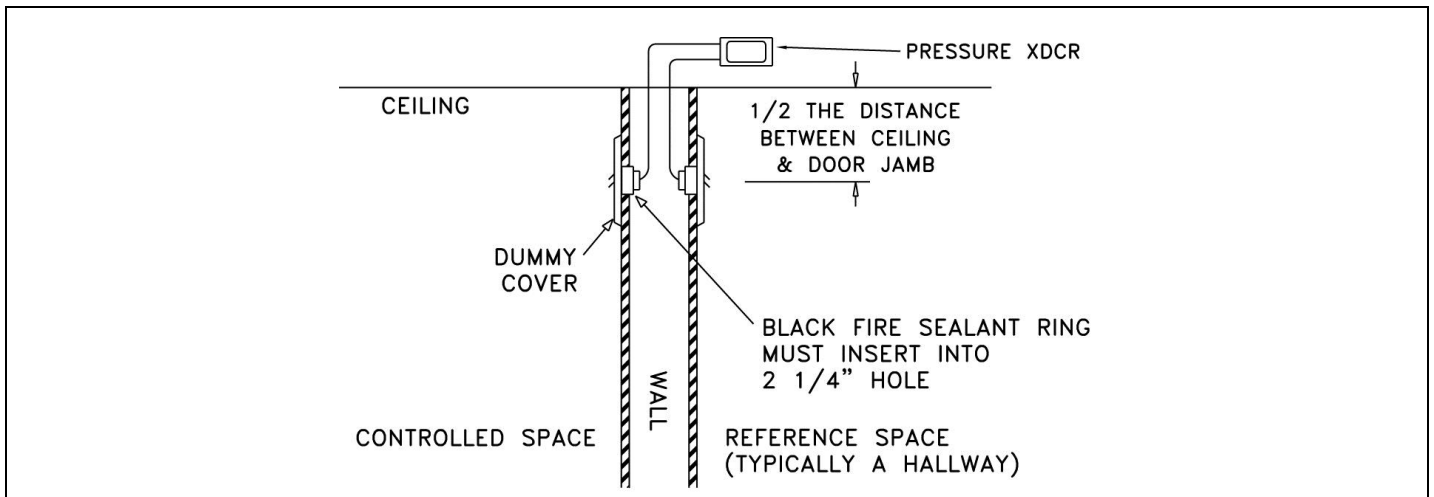

Figure 6: Cutaway View of Mounted Pressure Transducer Assembly
WARNING: 801913 pressure plates must be mounted in the wall between the controlled space (clean room) and referenced space (hallway), exactly as shown in Figure 6 and 7.
- Insert the pressure plate into the hole in the wall. Screw the pressure plate to the wall. The finished assembly should look like Figure 6.